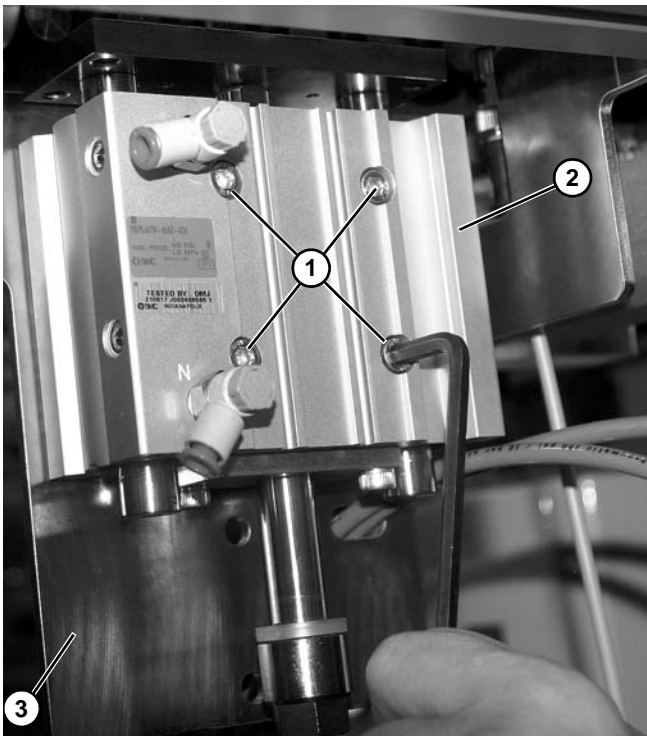

Figure 102
8. Remove four screws (**Figure 102, item 1**) securing cylinder (**Figure 102, item 2**) to mounting bracket (**Figure 102, item 3**).